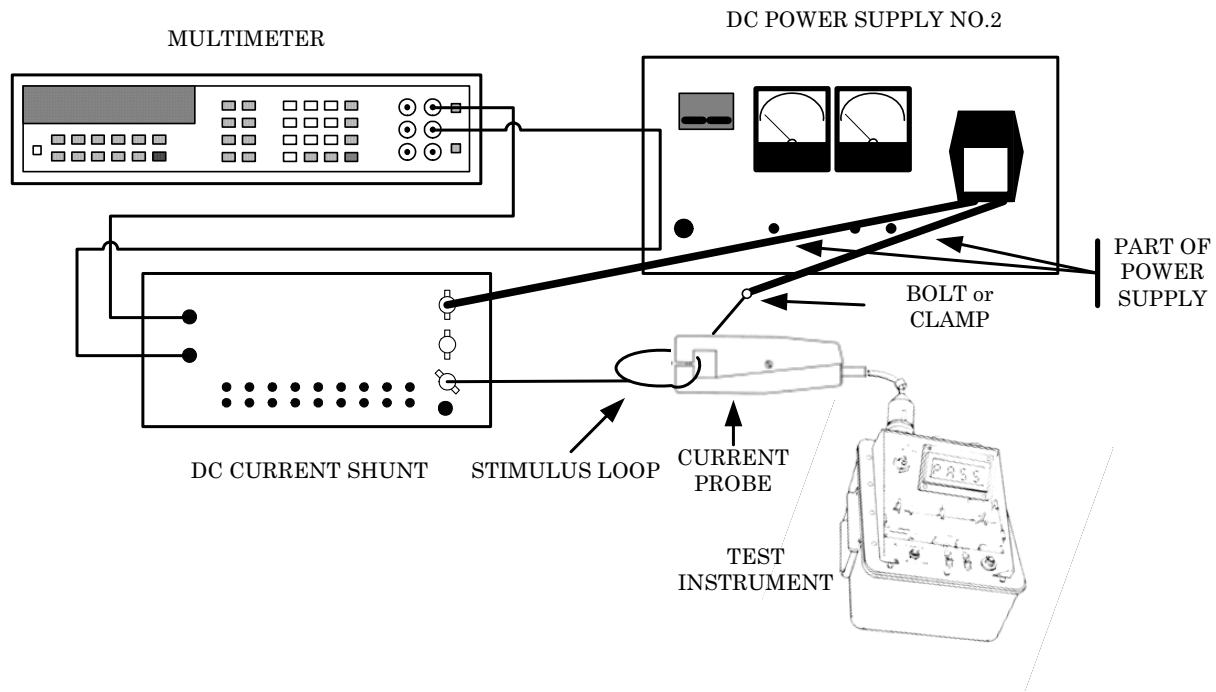

Figure 1. Dc current - equipment setup.
- (1) Connect equipment as shown in figure 1.
Fabricate a current stimulus loop as shown in figure 1. The loop design should be 20 turns of No. 10 insulated copper wire with a bundle diameter of the turns being no more than 1 inch. The inside diameter of the loop should be 6 inches, ± 1 inch. Care should be taken to ensure that the loop does not overheat.